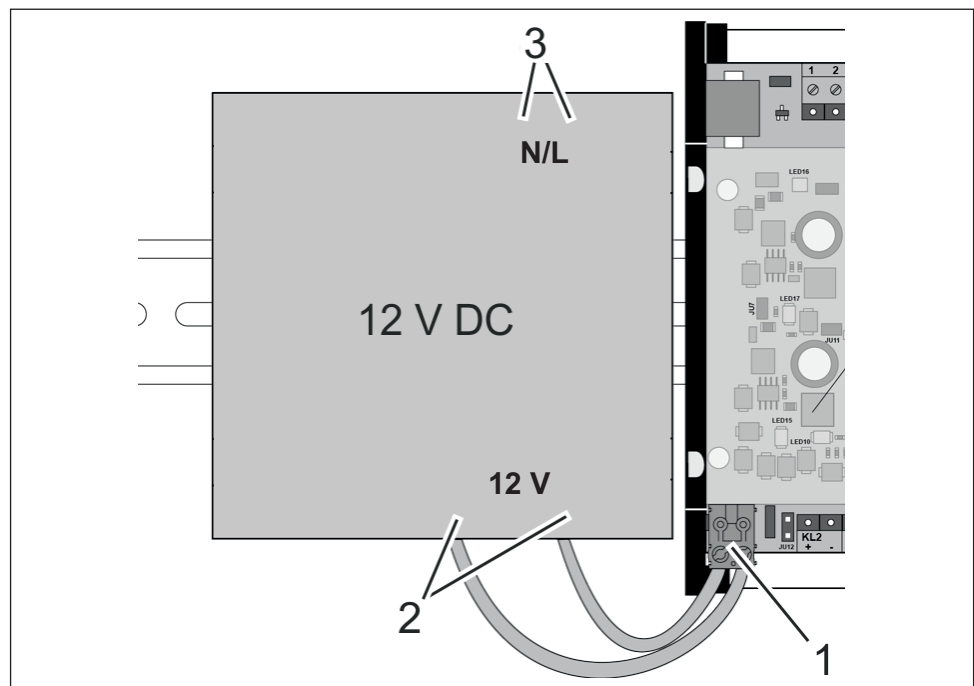

Fig. 11: Connection between power supply unit (illustrative) and controller
4. Connect controller terminal 1 (Fig. 11/1) to the 12 V voltage output port for the power supply unit (Fig. 11/2).
5. Connect the supply voltage input for the power supply unit (Fig. 11/3) to the on-site power supply.